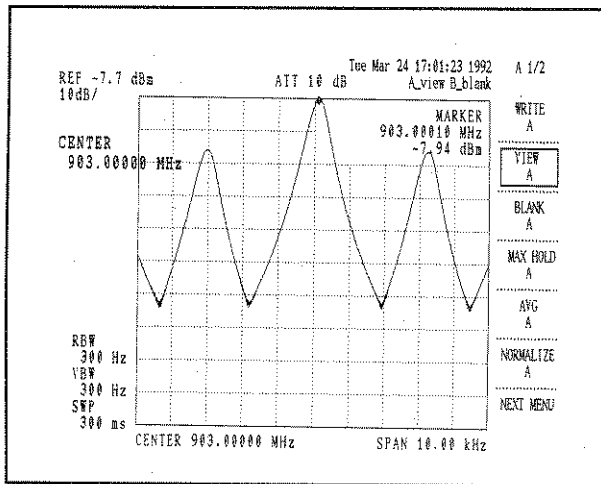

Figure 4-14 FM Signal f_c and E_c
- Write down the carrier frequency f_{c} (from the center frequency indicator) and the carrier level E_{c} (from the reference level indicator). (See Figure 4-14.)